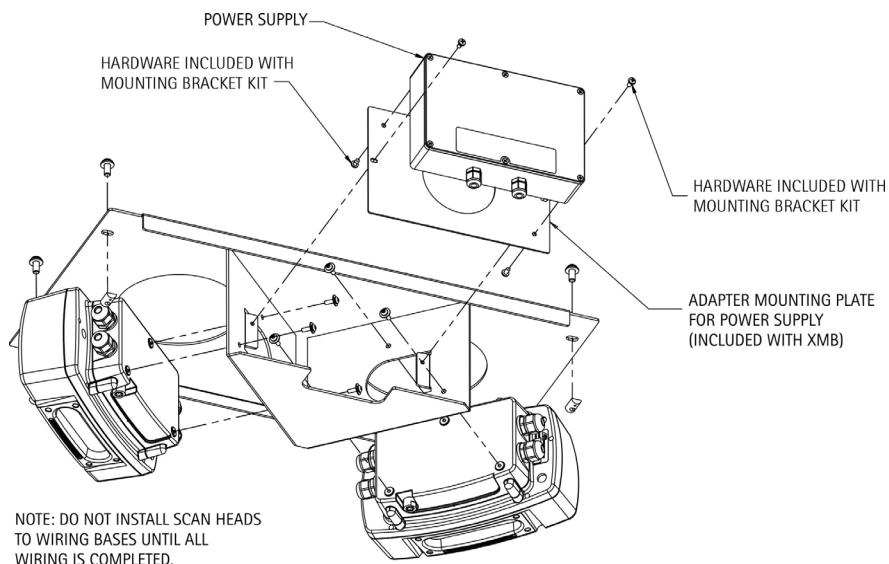

Figure 3-13: Mounting Power Supply Assembly to XMB
The Axiom power supply (PN 0105914001 for 120VAC or 0105914002 for 240VAC) is an accessory to provide power to two Axiom readers mounted to an XMB. If the power supply is included for your application, *Figure 3-13* illustrates how it attaches to the X-Pattern Mounting Bracket (XMB).
3. Attach the power supply/mounting plate assembly directly to the XMB. Fasten to the two tabs on the XMB as illustrated in *Figure 3-13*.